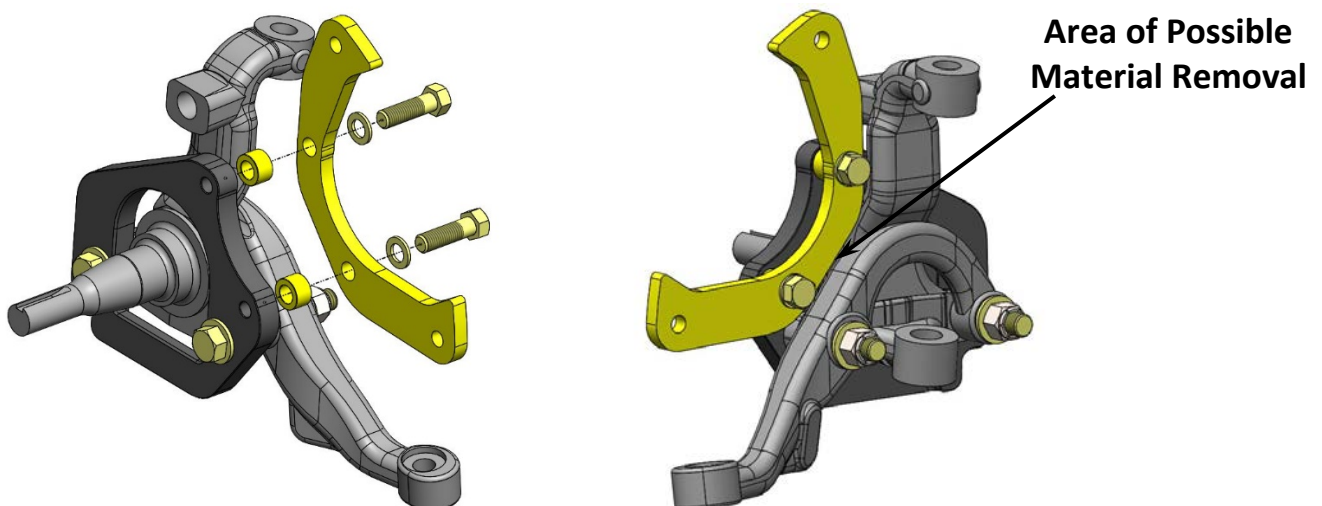

Figure 3 – Secondary Mounting Bracket Installed
5. Install the Secondary Caliper Mounting bracket on the Primary Caliper Mounting bracket. Using the provided 7/16"-14 x 1-1/2" Grade 8 Hex Head Bolts and 7/16" SAE Flatwashers along with two spacers, install the bracket and torque to 70 ft/lbs. **IMPORTANT:** It may be necessary to remove material from the steer arm due to inconsistency in the steer arm castings. If necessary, remove only enough material to leave a small gap between the steer arm and the bracket. It may be possible to remove material from one side of the vehicle and not the other. See Figure 3 below for assembled spindle with brackets along with area for removal.